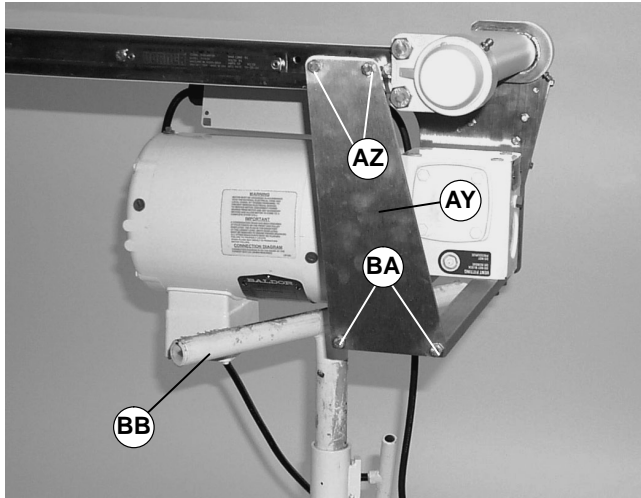

Figure 25
NOTE: For conveyor with a Heavy Load Bottom or Top Gearmotor Mounting Package, bracket (AY of Figure 25) must be removed.
The weight of the gearmotor is all on one end of the conveyor which could cause it to tip off the stands when the mounting clamp plates are loosened. Be sure to provide support (BB of Figures 25 and 26) underneath the gearmotor while changing the belt.
2. Place a temporary support (BB of Figures 25 and 26) under gearmotor mounting package.
7. For a conveyor with a Heavy Load Bottom or Top Mounting package, install bracket (AZ of Figure 25).